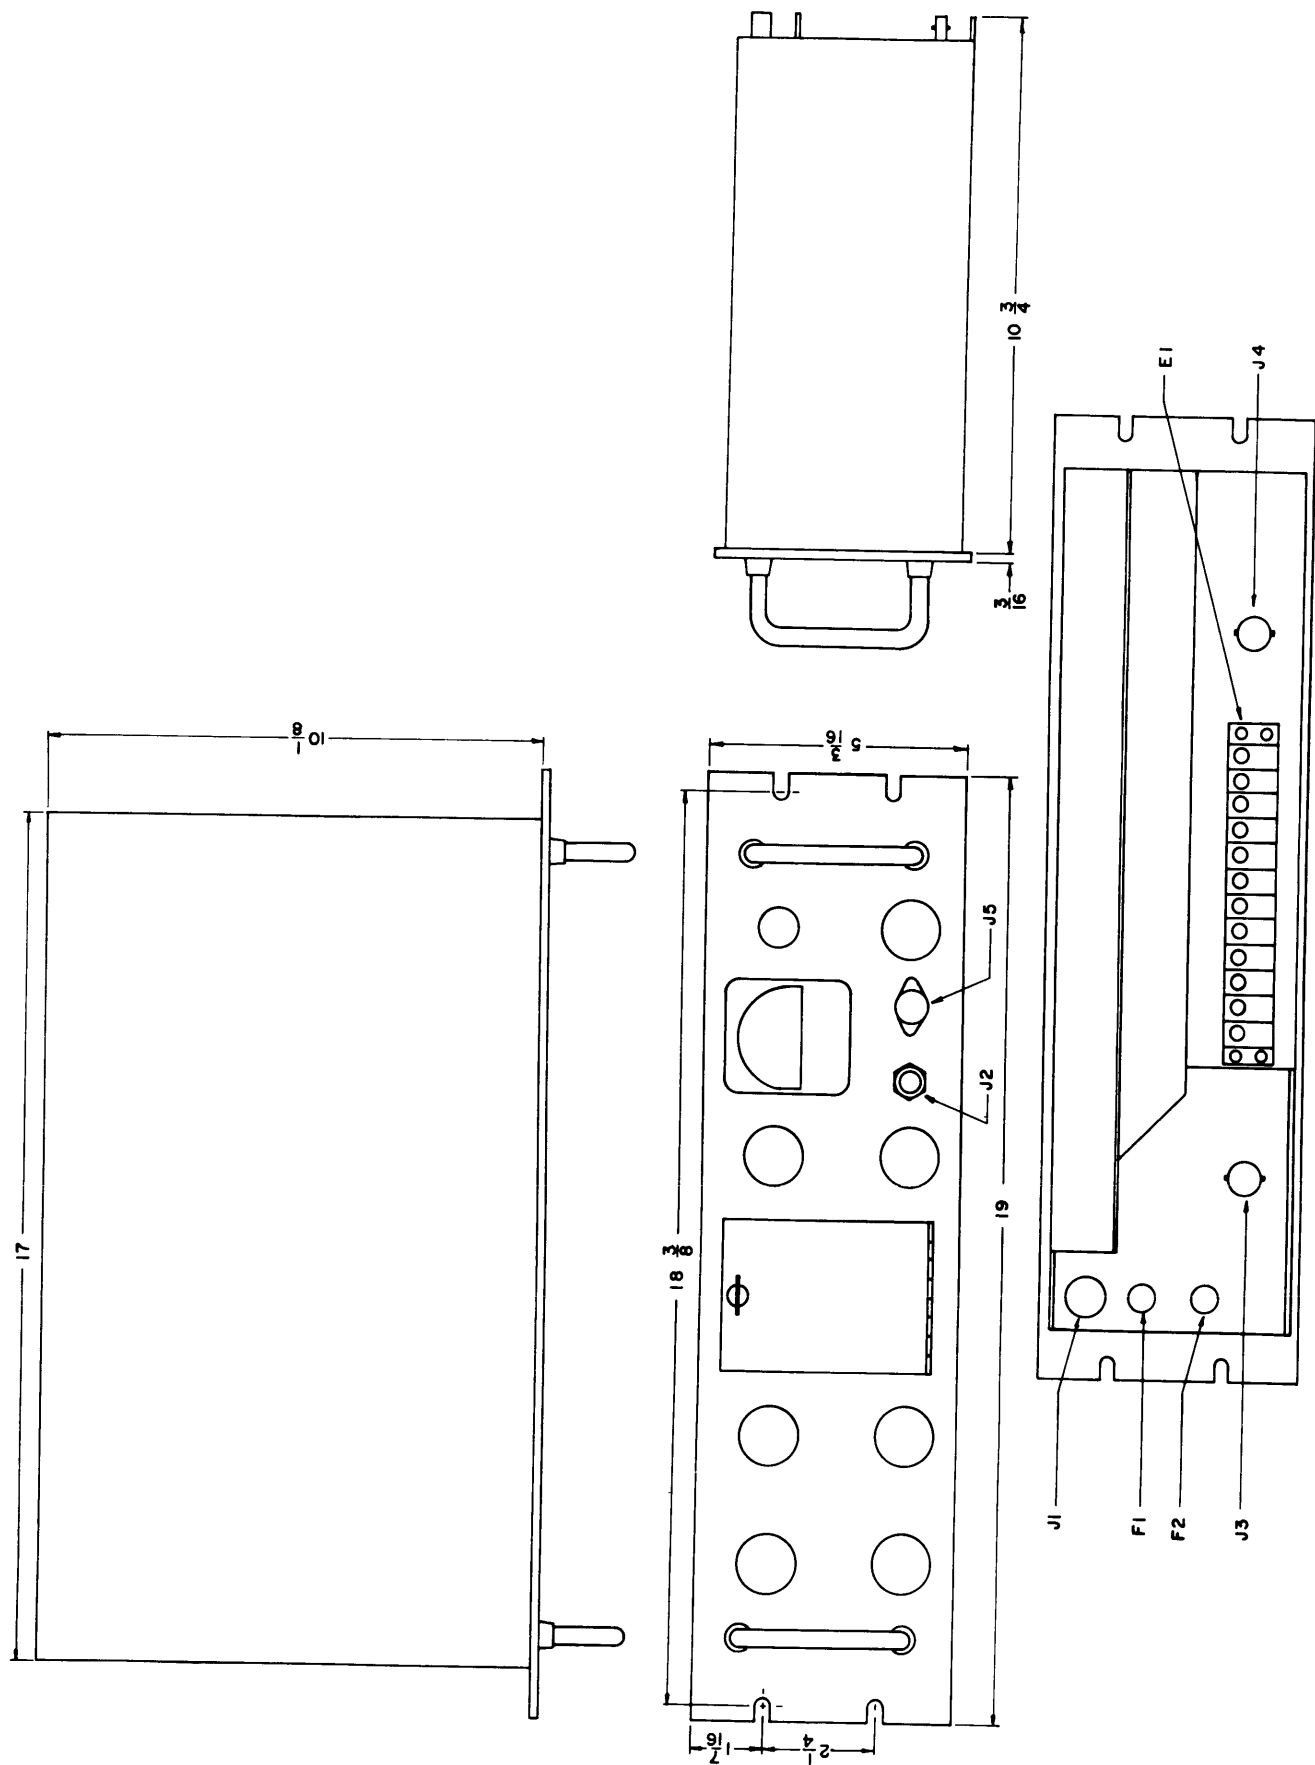

Figure 2-2. Outline Dimensional Drawing, GPE-1.
a. GENERAL. The GPE-1 may be installed in any standard relay rack. For outline dimensions, see Figure 2-2. The procedures outlined in paragraphs b, c, d and e are wiring procedures for the different modes of operation intended for the unit. Any or all wiring arrangements may be made, as required.